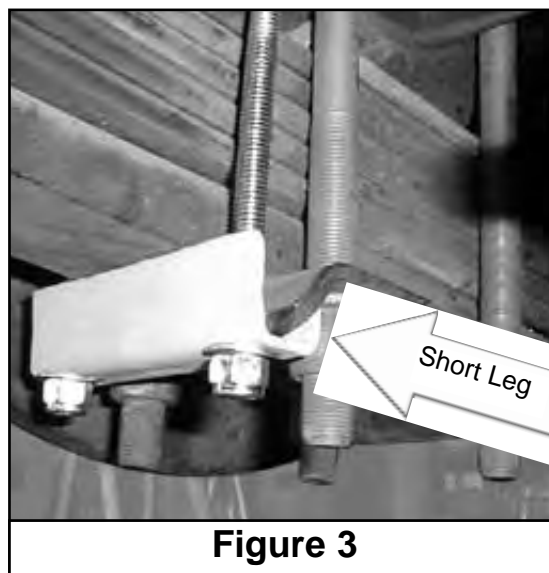

Figure 3
8. Attach the lower bracket by inserting the U-bolt over the front of the lower bracket, slide the clamp bar onto the U-bolt with the short leg of the clamp bar forward. The short leg of the clamp bar must be locked under the edge of the spring retainer bracket (Figure 3). Install 3/8" flat washer and 3/8" lock nuts. Tighten to 20 ft. lbs.
Stability translates into safety and should be the priority, meaning the driver may need to sacrifice a perfectly level and comfortable ride. Stability issues include roll control, bounce, dive during braking and sponginess (fig. 3). Tuning out these problems usually requires an increase in pressure.